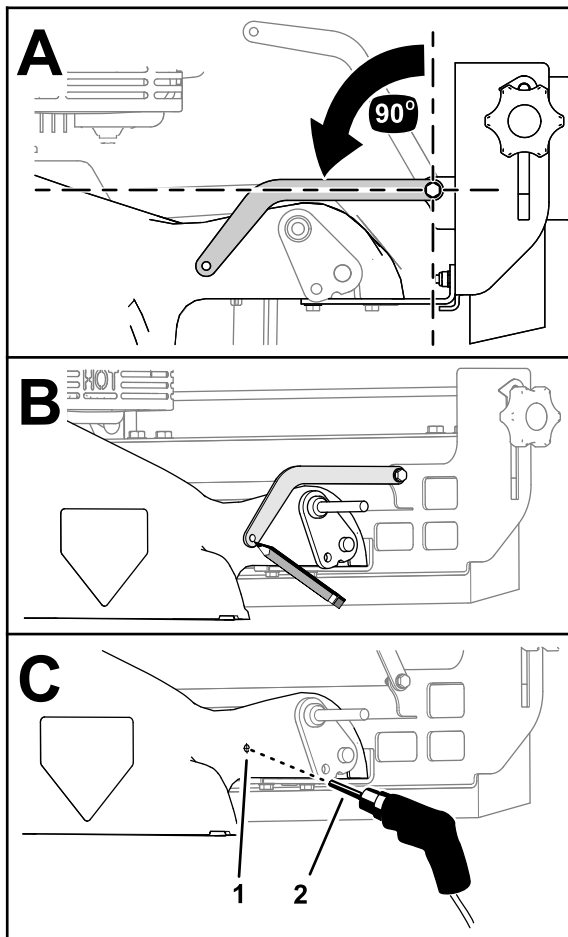

Figure 12
1. At the right side of the mower deck, align the brush strut 90° to the to the brush mount (Figure 12).
2. Mark the hole location of the brush strut onto the deck (Figure 12).
4. Drill the centerpunch mark with a drill bit (6.5 mm) as shown in Figure 12.